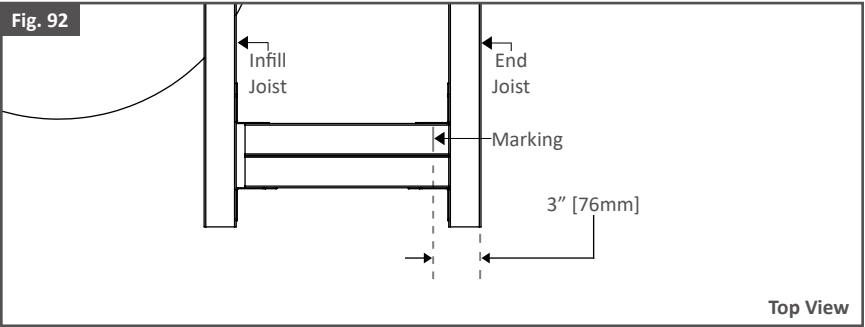

Fig. 93
5. Position cut Joist assembly along markings and top face flush with top faces of framing Joists. As shown in Fig. 93 & 94.